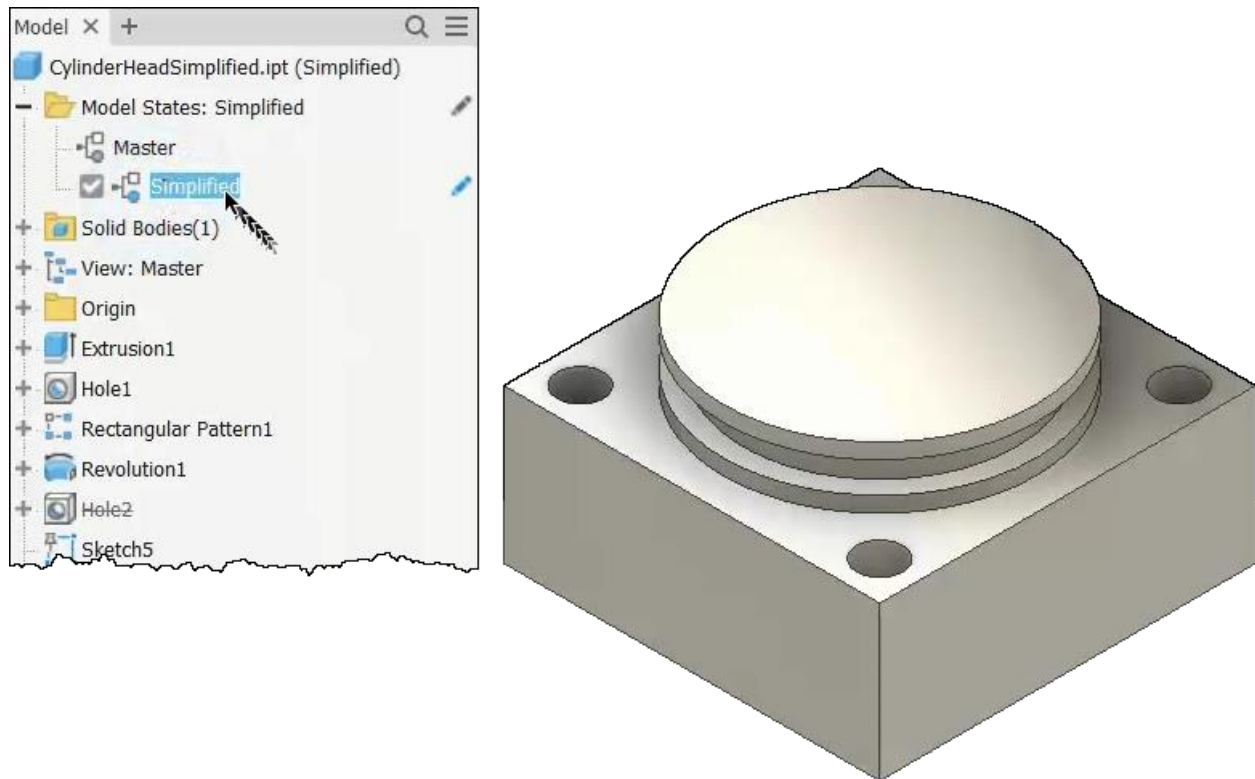

Figure 2 - Simplified model state has removed features that are of no benefit to the simulation.
- The model with suppressed details is created in a Simplified" model state and is used for the analysis. See Figure 2.